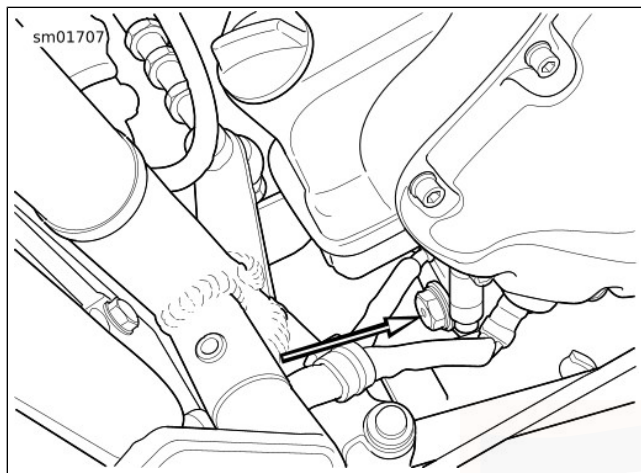

Figure 30. Oil Drain Plug: V-Rod Model
1. See Figure 30. Loosen the oil drain plug and completely drain the oil.
7. See Figure 30. Install the engine oil drain plug. Tighten the drain plug to 30–40 N·m (22–30 ft-lbs).